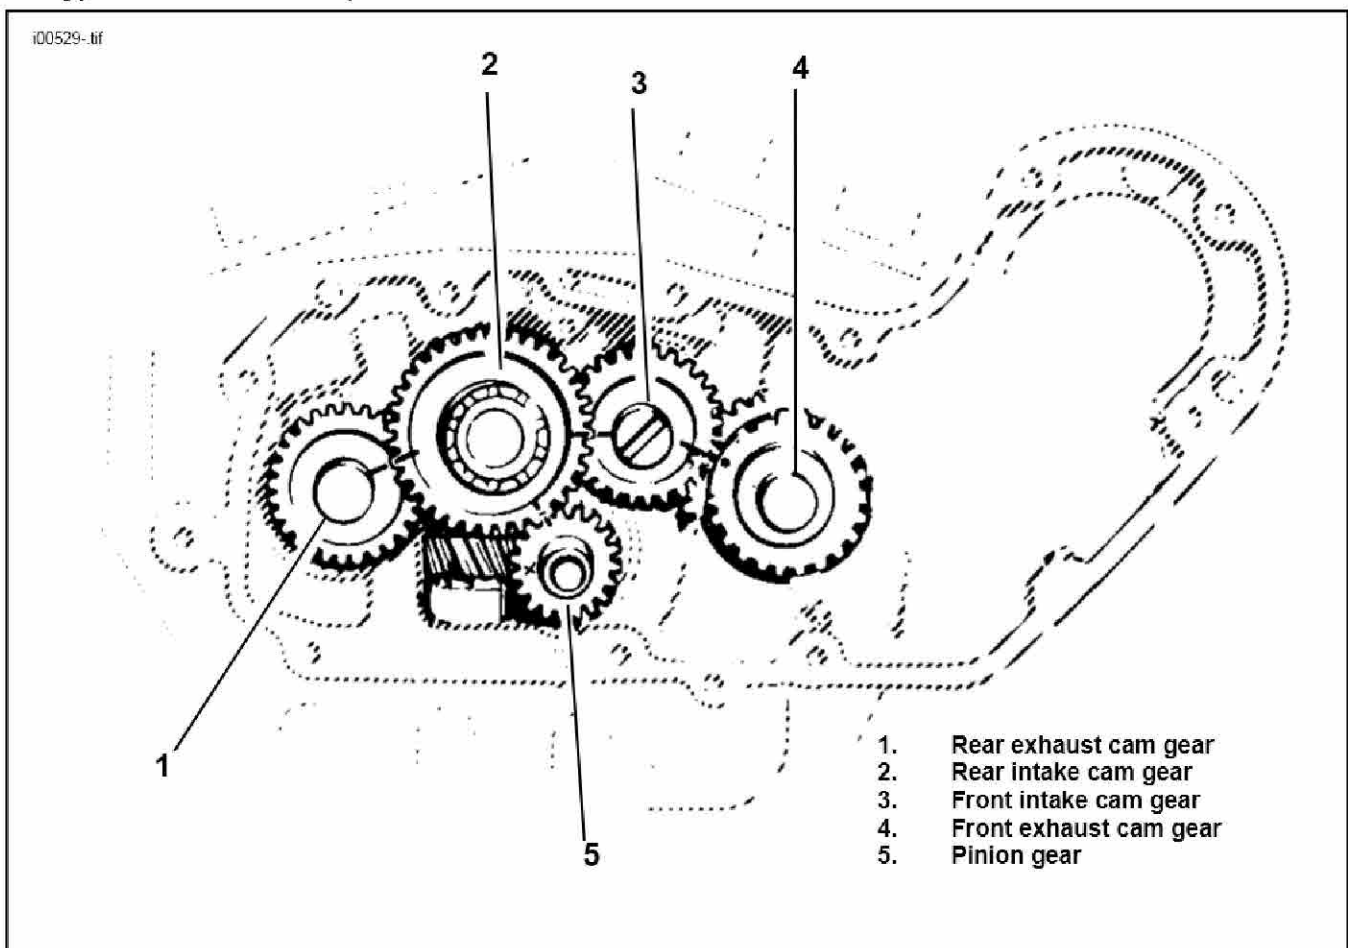

Figure 1. Timing mark alignment
11. See Figure 1. Rotate engine to align timing marks. Cams are numbered 1 to 4 from the rear exhaust (1) to the front exhaust(4). Remove camshaft (2). One at a time remove camshaft 1, 3 and 4 and replace with the appropriate camshaft from this kit. Be careful to maintain timing mark alignment. Install camshaft 2 from this kit last. Carefully check alignment of all timing marks.